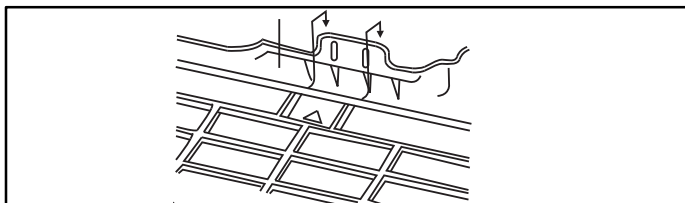
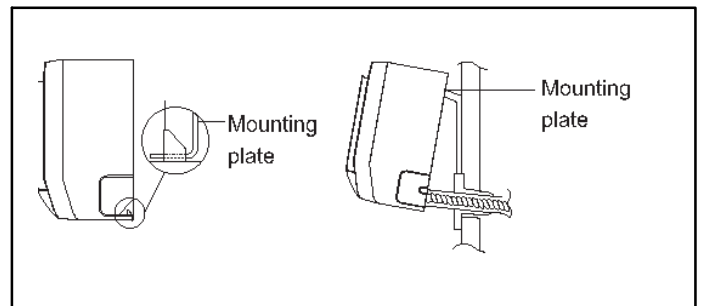

Figure 9 – Hanging Indoor Unit
Figure 12 – Hang Indoor Unit
4. Hang indoor unit on upper hooks of wall mounting plate, as shown in Figure 9 and Figure 12.